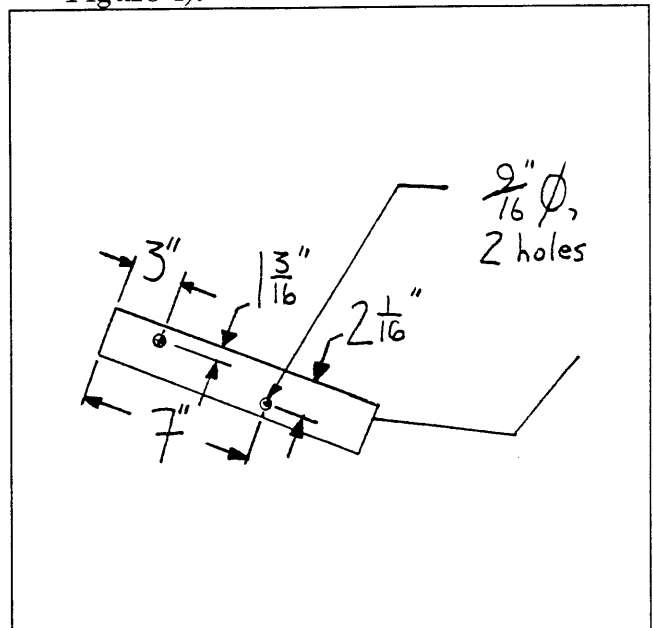

Figure 5
11. Drill two 9/16" dia. holes through the left side of the operator foot platform as shown in Figure 5.